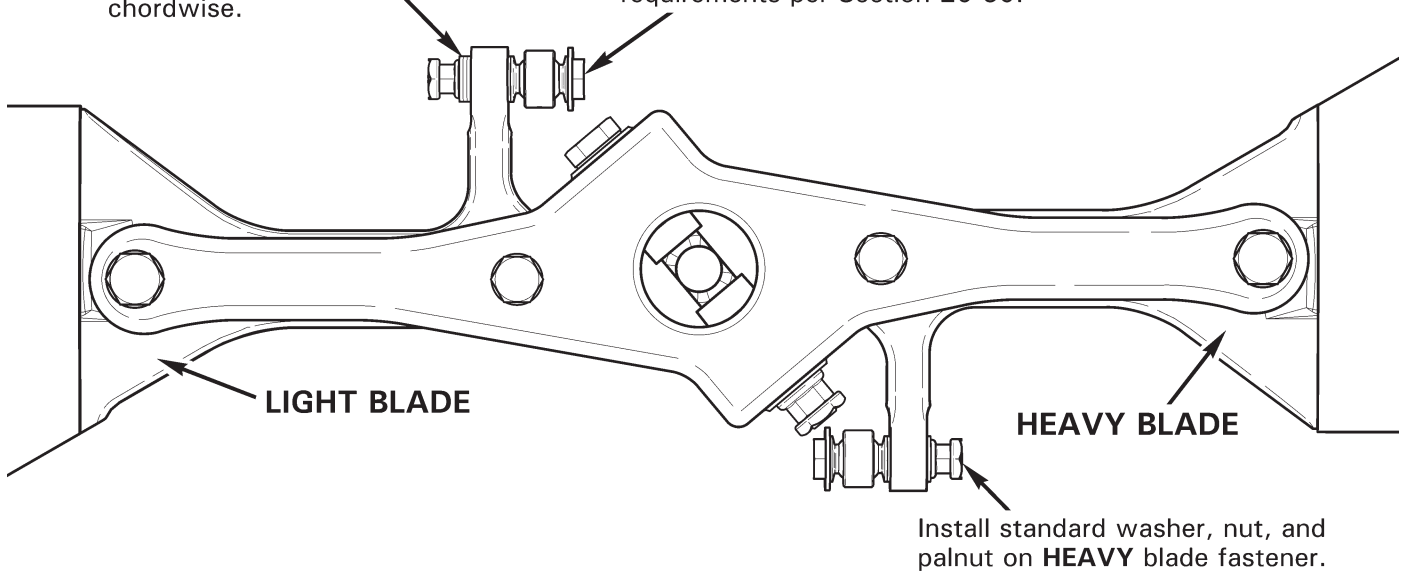

FIGURE 64-2 CHORDWISE STATIC BALANCE
1. Refer to Figure 64-2. Install MT179-4 balance bar into tail rotor assembly. Install teeter hinge bolt, and special torque nut to 350 in.-lb. Using a carpenters square, adjust balance bar until approximately perpendicular to hub.